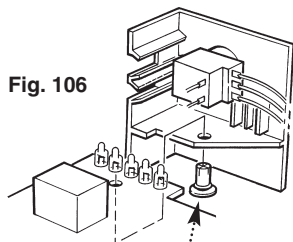

Fig. 106
6. Carefully withdraw the centre pin from the retaining rivet which then allows the retaining rivet to be removed. Remove the thermostat control panel (Fig. 106 & 107). (On reassembling ensure the control panel is located over the retaining rivet body before inserting the centre pin).